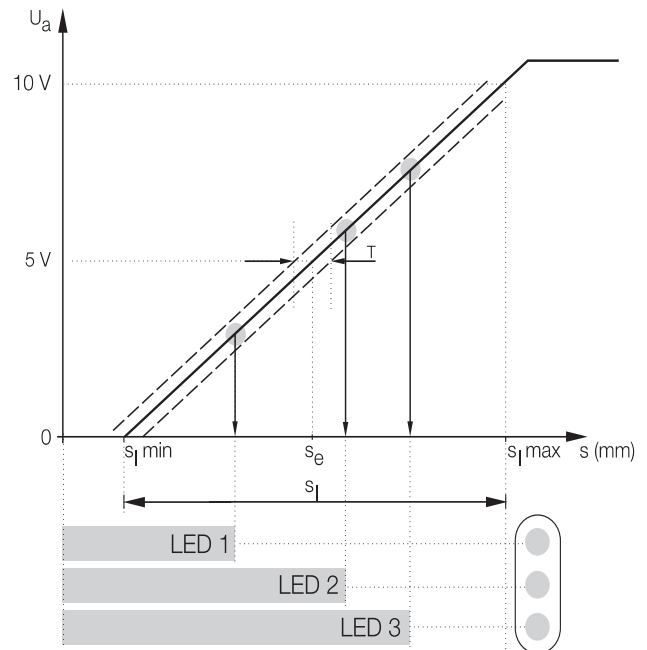

Fig. 1: Analog signal in the linearity range
- Bring the object to be detected (machine member etc.) to the desired switching position or to a defined point (e.g. 4 mm from the sensor) within the sensor's linearity range (Fig. 1).